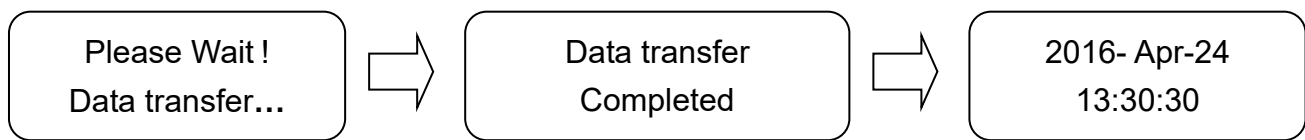

Figure 69
- b) After completing a sterilization cycle, the data will be stored to USB flash drive; and the recorder returns to stand-by mode. The sequences of storage message are shown in the Figure 69.